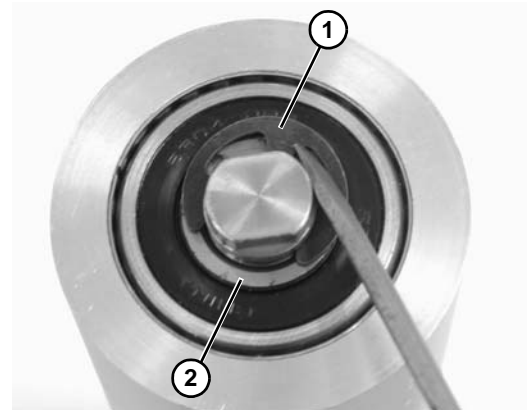

Figure 40
10. Remove the pulley shaft assembly: remove the clip ring (Figure 40, item 1) and washer (Figure 40, item 2) from one side of the pulley assembly.